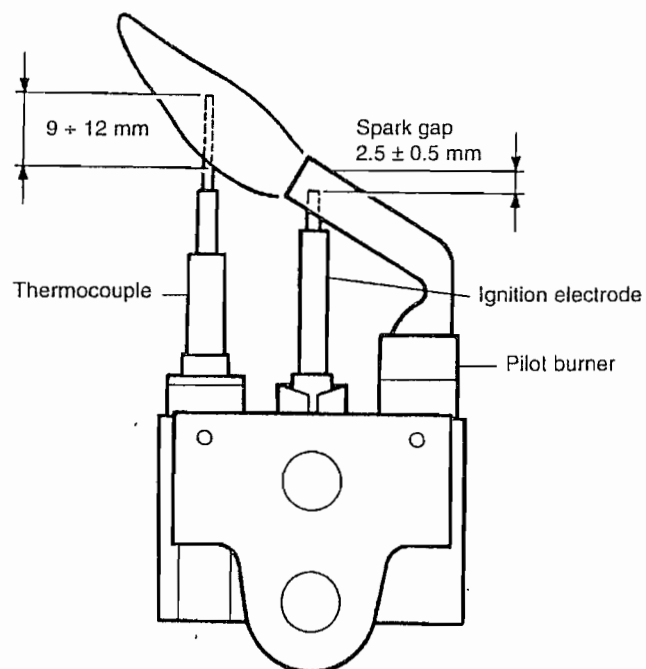

Fig. 35
- j) Re-assemble in reverse order. Ensure that the pilot works correctly and that the pilot flame envelopes the electrode tip (fig. 35).